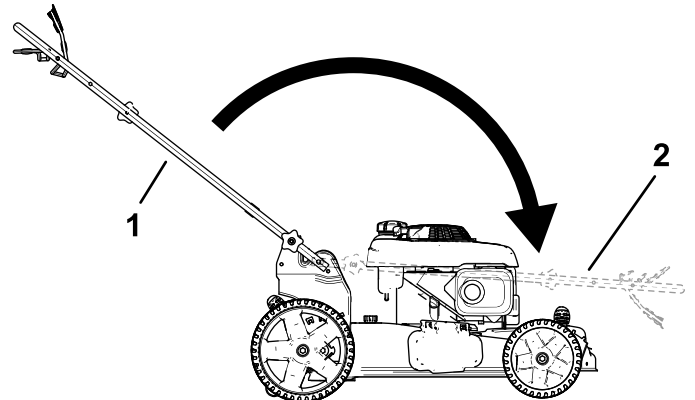

**Figure 18**
1. Remove and save the 2 handle knobs and 2 carriage bolts from the handle brackets (Figure 18).